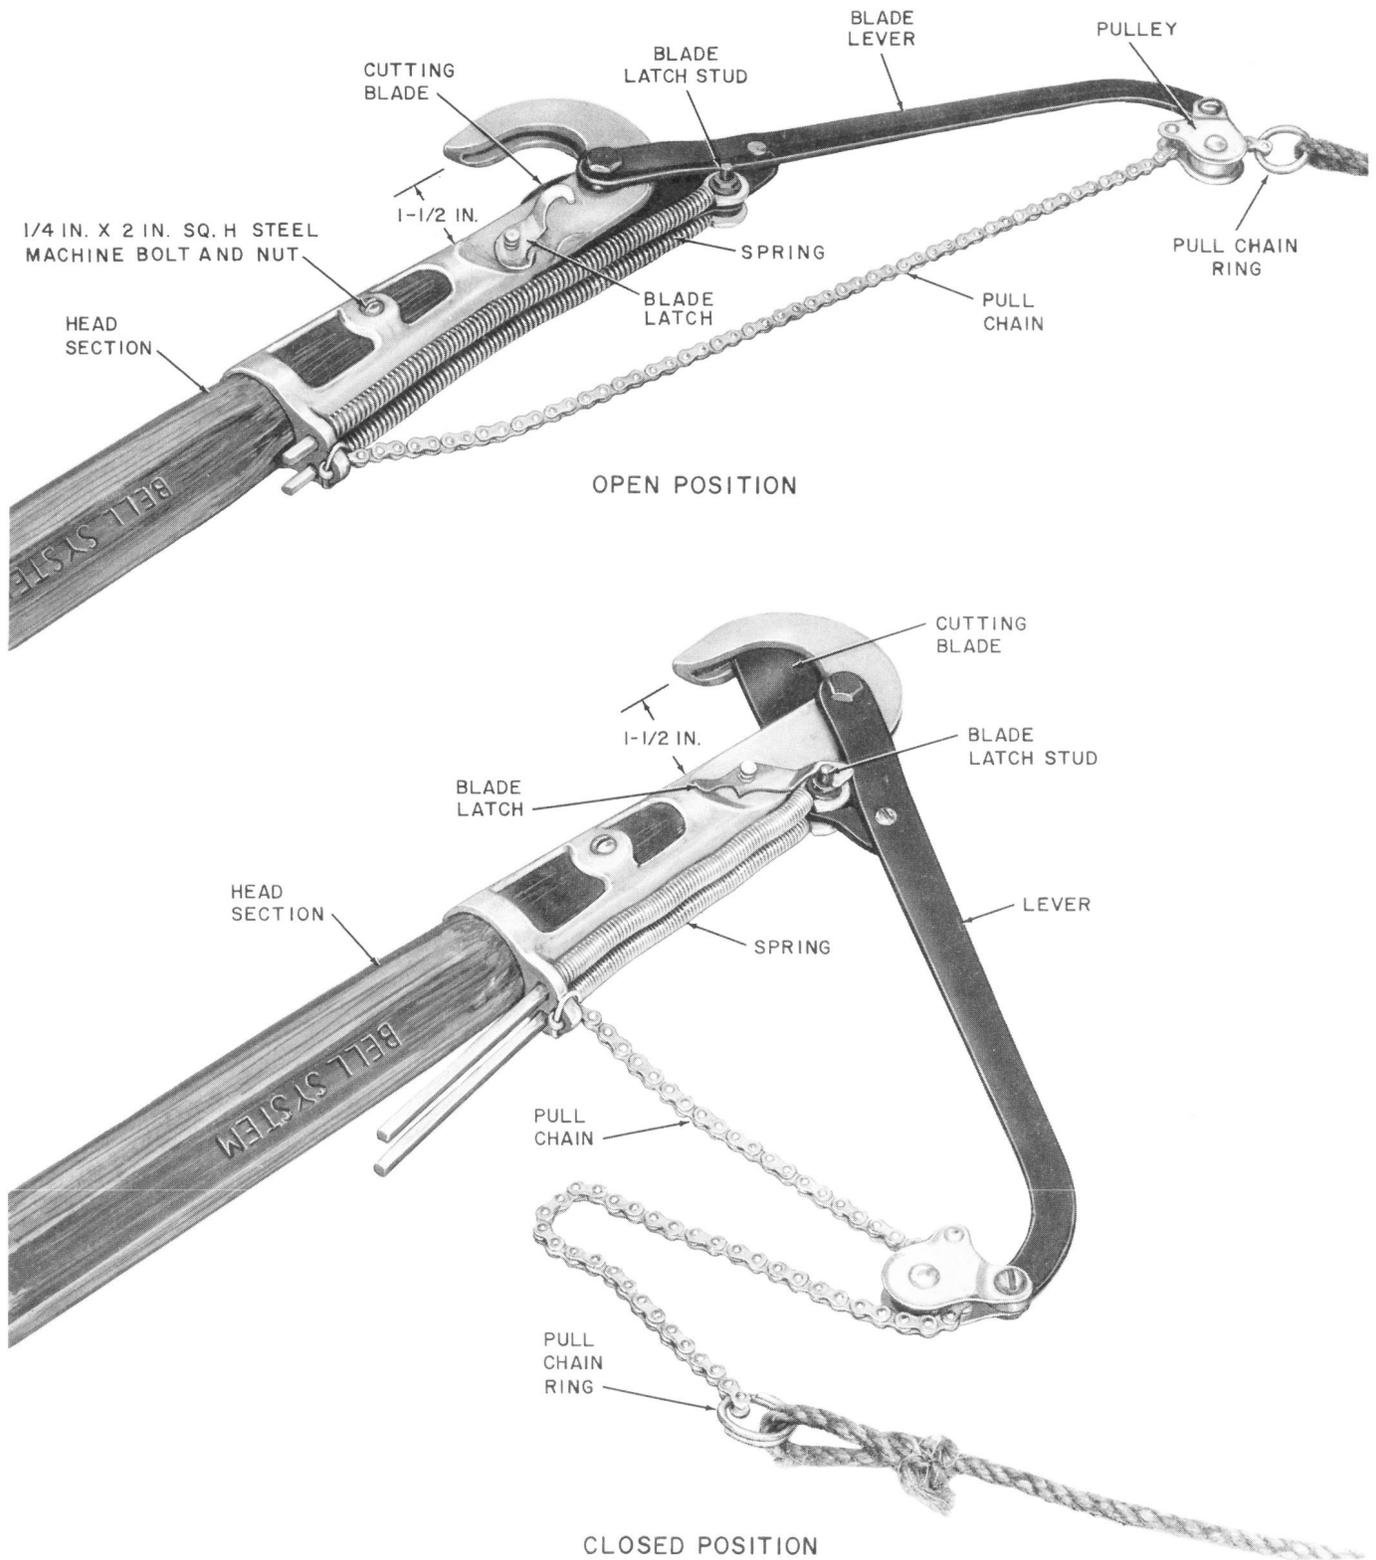

Fig. 2—C Tree Pruner Head
2.02 The B Tree Pruner Head (Fig. 1) is used with the small tree pruner handles and has a cutting capacity up to 1 inch. The C Tree Pruner Head (Fig. 2) is used with the large tree pruner handles and has a cutting capacity up to 1-1/2 inches.
2.05 The blade of the C pruner can be locked in the closed position, as shown in Fig. 2, by the blade latch which hooks over the blade latch stud.